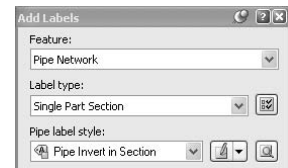

Figure 11.16
5. Use the **Pipe Label Style** drop-down list to choose **Pipe Invert in Section**. Your selections will look like Figure 11.16.